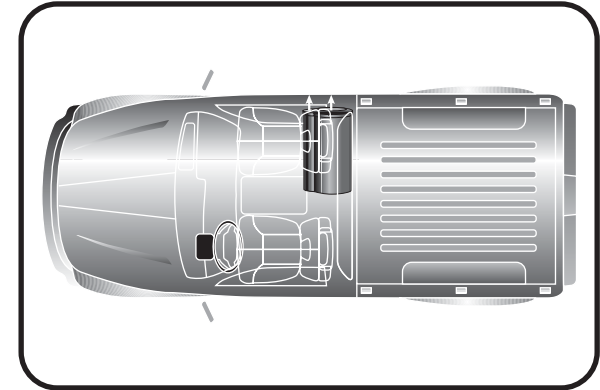

Figure 1
- 1) The woofer (grill end) should be facing into a corner. (See figures 1, 2 and 3)**